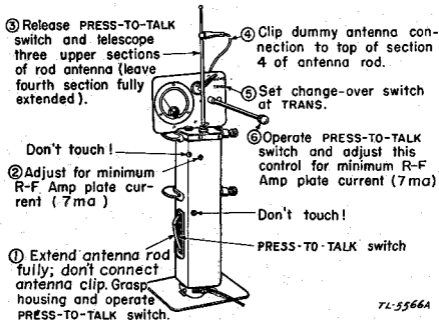

FIGURE 12.—Transmitter presetting adjustments.
e. Telescope the upper three sections of the antenna rod, leaving only the bottom or fourth section fully extended from the housing. Clip the *dummy antenna connection* to the upper part of the antenna rod. (See fig. 12.) Set the *antenna change-over switch* on the panel of test stand FT-252-(* to **TRANS.** position, and then, still
(1) Using the small screw driver, adjust the *transmitter tank adjustment screw* for minimum current reading on the 15-milliamperemeter. The normal reading is approximately 7 milliamperes. See figures 12 and 14 for location of the *transmitter tank adjustment screw*. Release the press-to-talk switch.
(2) Telescope the upper three sections of the antenna rod, leaving only the bottom or fourth section fully extended from the housing. Next, clip the *dummy antenna connection* to the upper part of the antenna rod. (See fig. 12.) Set the *antenna change-over switch* on the panel of test stand FT-252-(*) to TRANS. position.
(3) Connect the microphone provided with the test set to the M and G terminals of the test harness. The braided lead goes to the G terminal.